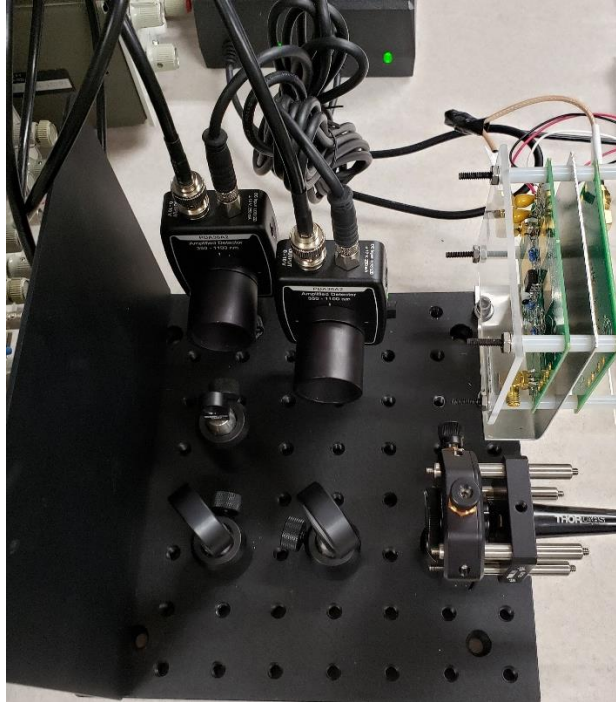

Figure 8: Photodetector Setup
- c. The result is shown in Figure 8 below: